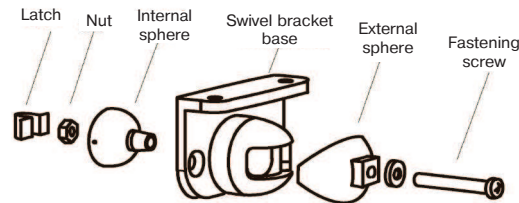

Figure 4 – Exploded View of the Swivel Bracket
- Fasten the detector base in the chosen place; In case the detector is fastened to the swivel bracket (see Figure 4), remove the M3x20 screw from the swivel bracket. Holding the parts of the bracket together, put the square lug on the outer sphere of the bracket with the corresponding recess in the base of the detector and fasten the detector to the bracket with the screw. Tighten the screw slightly, so that the base stays in position on the swivel bracket, but can still be turned.